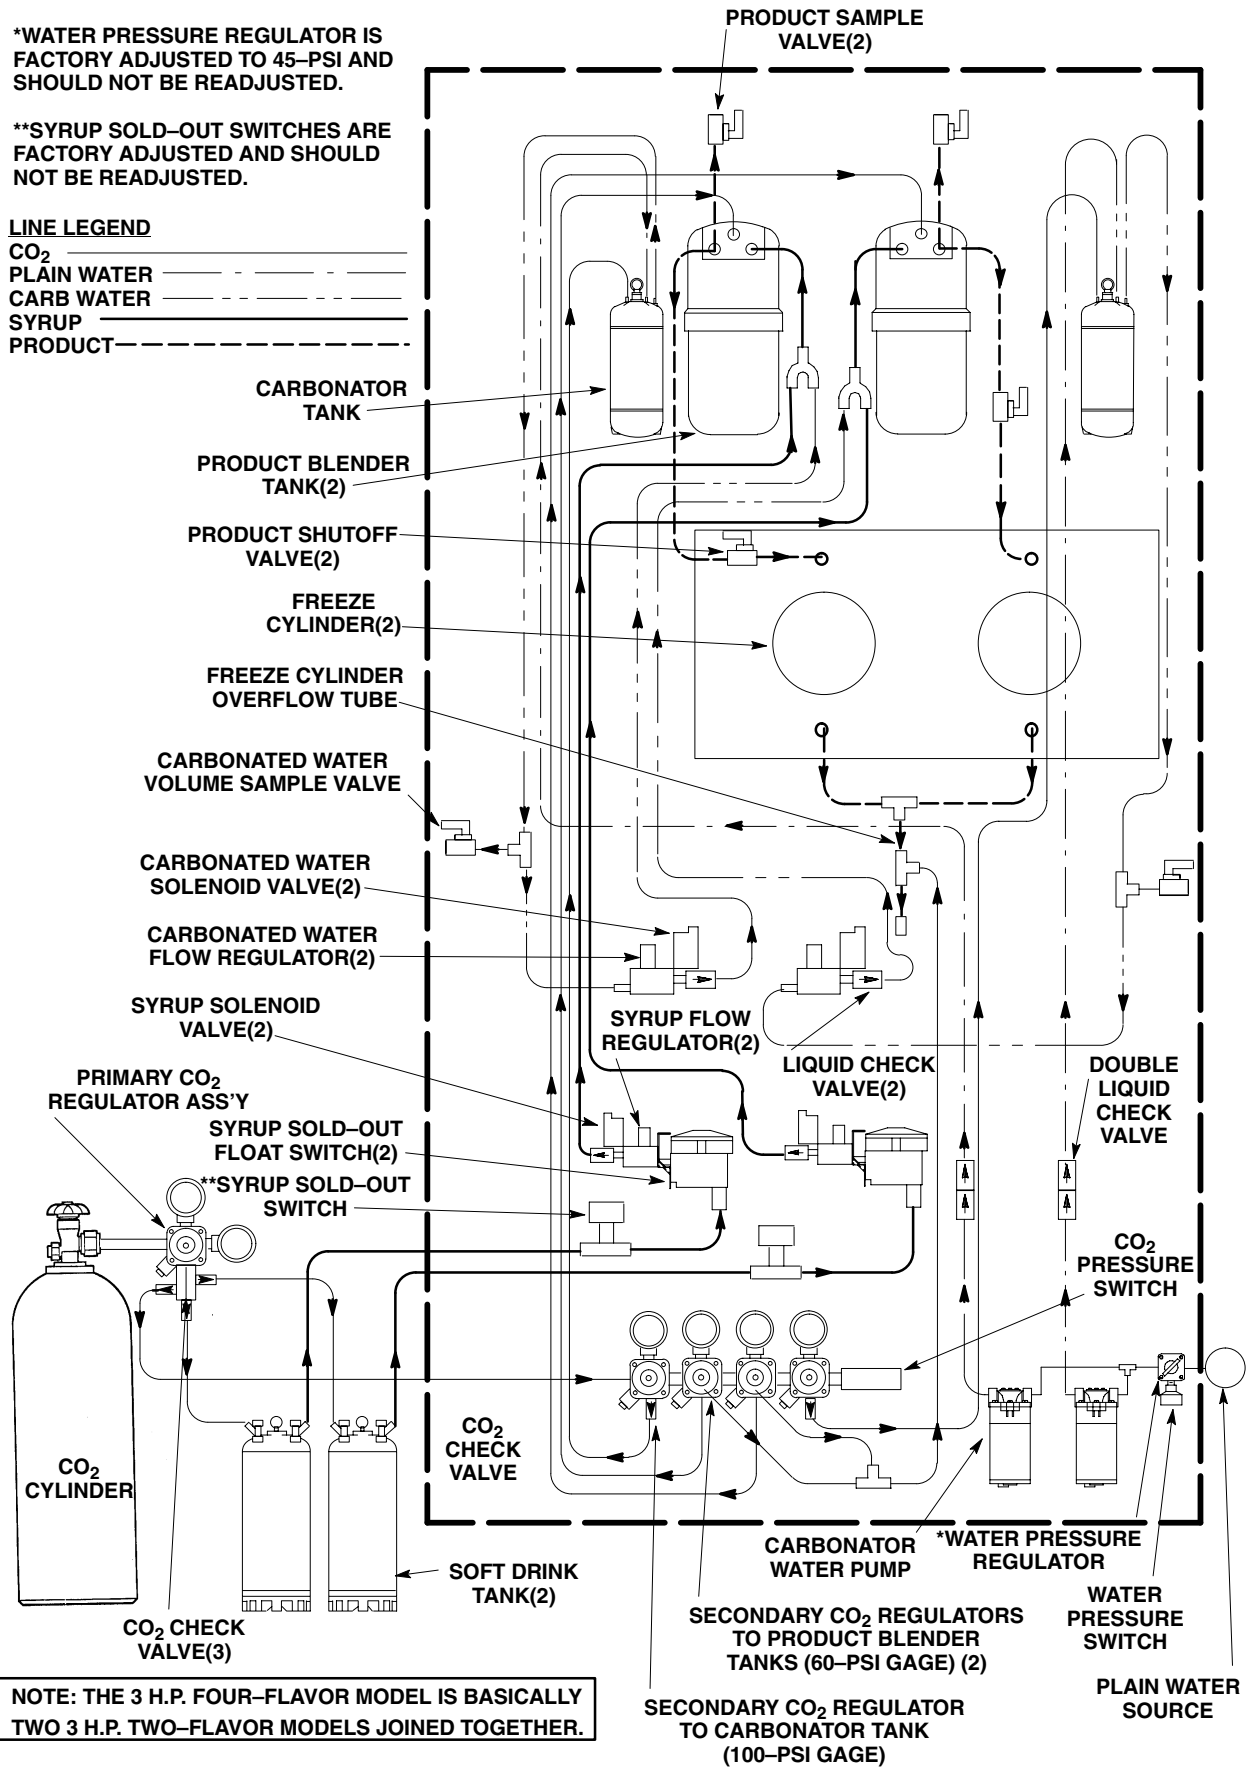

FIGURE 4. FLOW DIAGRAM. 3 H.P. DISPENSER (TWO-FLAVOR MODEL SHOWN)
(see applicable Figure 4 or 5)
INSTALLING PRIMARY CO₂ REGULATOR ASSEMBLY ON CO₂ CYLINDER (see applicable Figure 4 or 5)
CONNECTING SOFT DRINK TANKS CO₂ LINES TO PRIMARY CO₂ REGULATOR ASSEMBLY (see applicable Figure 4 or 5)
1. Connect soft drink tanks CO₂ lines to primary CO₂ regulator manifold assembly as shown in applicable Figure 4 or 5.
PREPARING UNIT SYRUP INLET LINES FOR CONNECTION TO SOFT DRINK TANKS (see applicable Figure 4 or 5)